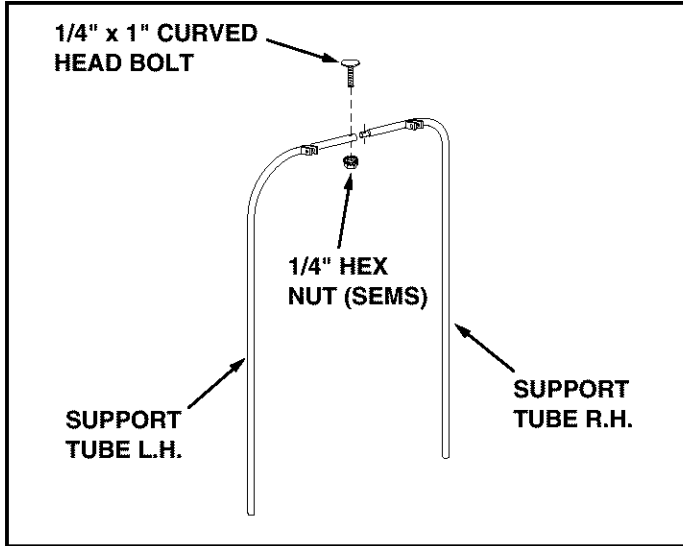

FIGURE 11
- Assemble the reduced ends of the R.H. support tubes into the ends of the L.H. support tubes. Fasten the tubes together using two 1/4" x 1" curved head bolts, inserted from the top, and two 1/4" (SEMS) hex nuts. See figure 11.